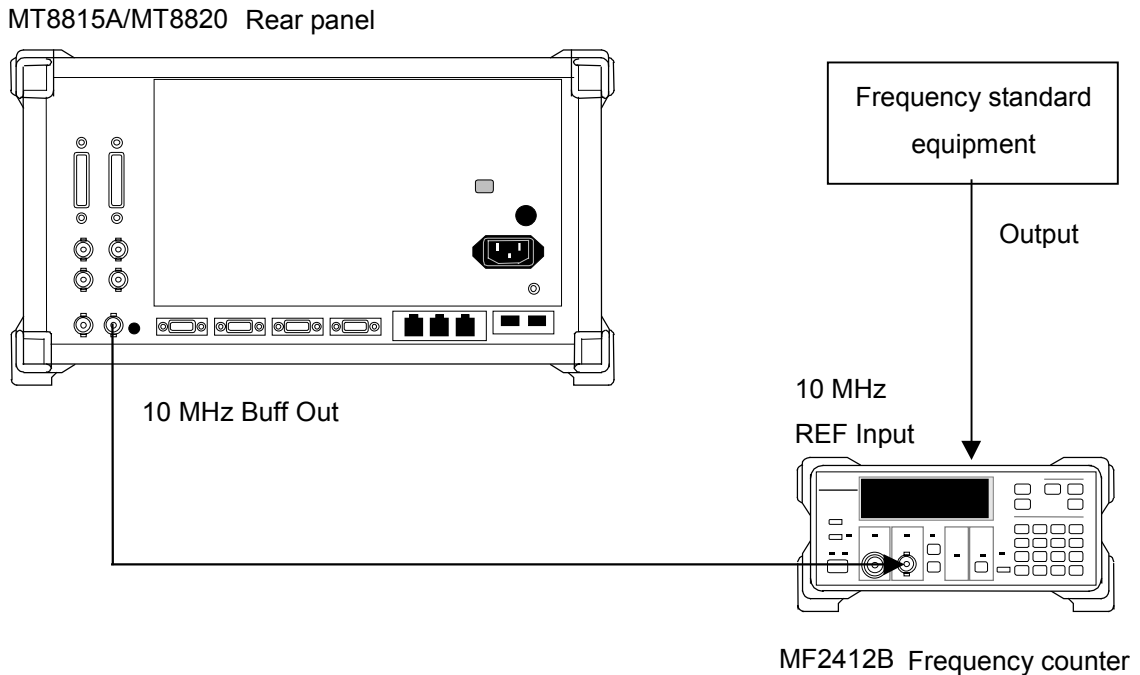

Fig. 9.1.4-1 Setting up the frequency stability test for reference oscillator
1. In the connection diagram, Fig. 9.1.4-1, install MT8815A/MT8820A in the thermostat and set its temperature at 25°C.